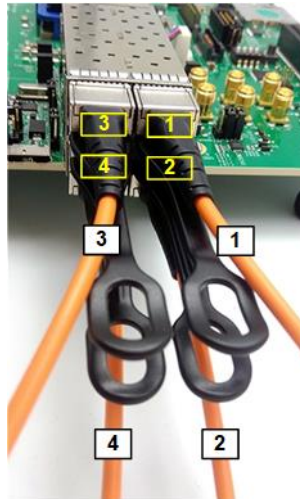

Figure 2-6 Four SFP+ cables connecting to ZCU102 board
- a) For the ZCU102, insert the four SFP+ cables into the onboard SFP+ ports. Ensure that the channel number of the four cables match those shown in Figure 2-6.